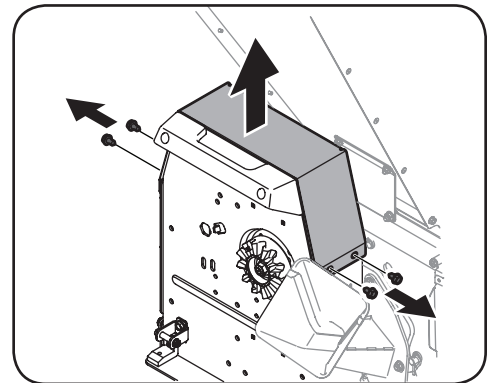

Figure 5-12
- Remove the cover screws which secure the drive system cover. Retain hardware. See Figure 5-12.